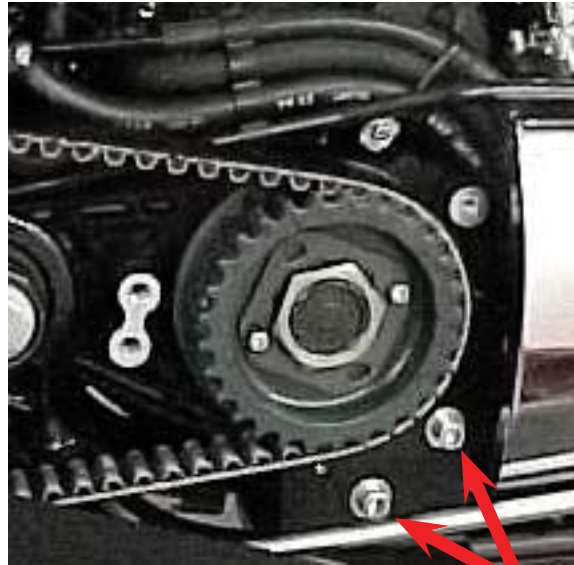

Figure 1
2. Install and tighten supplied mounting bracket #7-70042 with supplied 3/8" x 3/4" bolts, torque to 30-33 ft/lbs, refer to (*Figure 1*).